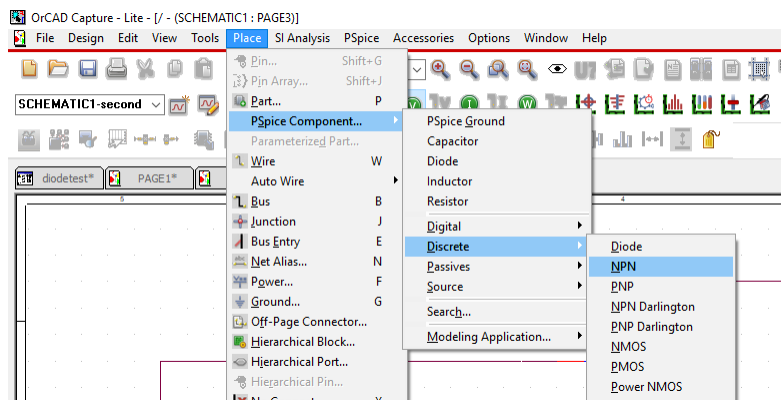

Figure 1: NPN Transistor Location
2. Create an NPN transistor. They can be found in Place \Rightarrow PSpice Component \Rightarrow Discrete. See Figure 1.